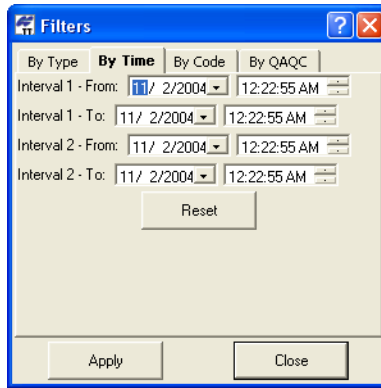

Figure 4-68. Select By Time Filter
2. On the *By Time* tab, select the *From* and *To* time filters for *interval 1* and *interval 2* to apply to the job (Figure 4-68 on page 4-63).